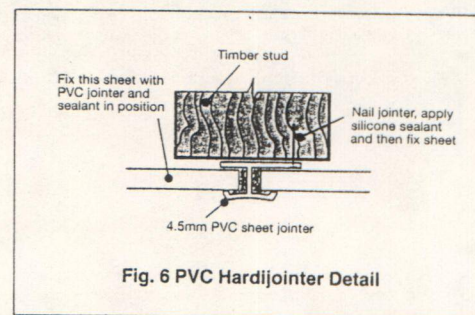

Fig. 6 PVC Hardijointer Detail
- For wet area applications all the sheet edges should be sealed into Hardiglaze PVC jointers. (Refer Fig. 6)